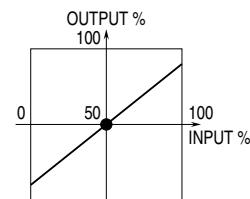

Fig. 7
3) With 50% input (actuator position), check that the output is approximately 50%. See Figure 7.